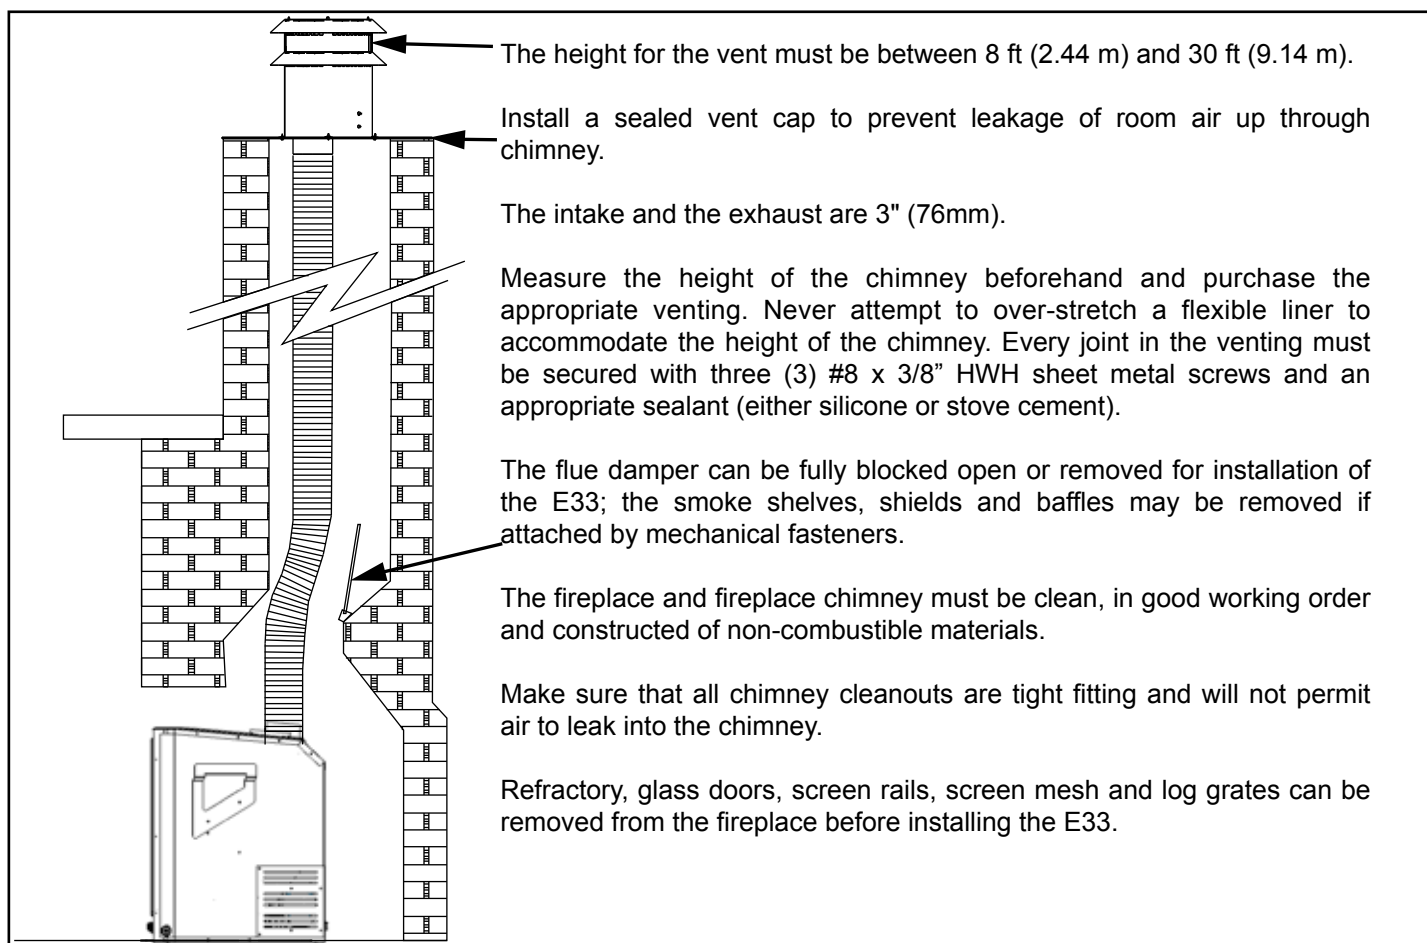

Figure 25: Installation of E33I DV .
1. Plan your installation and clearances to combustibles. The E33I may be installed and vented into any solid fuel fireplace that has been installed in accordance with the National, Provincial/State and local building codes and has been constructed of non-combustible materials. Also refer to the INITIAL INSTALLATION - PREPARING YOUR E33I FOR INSTALLATION and CLEARANCES TO COMBUSTIBLES sections. Refer to Figure 25 throughout installation.